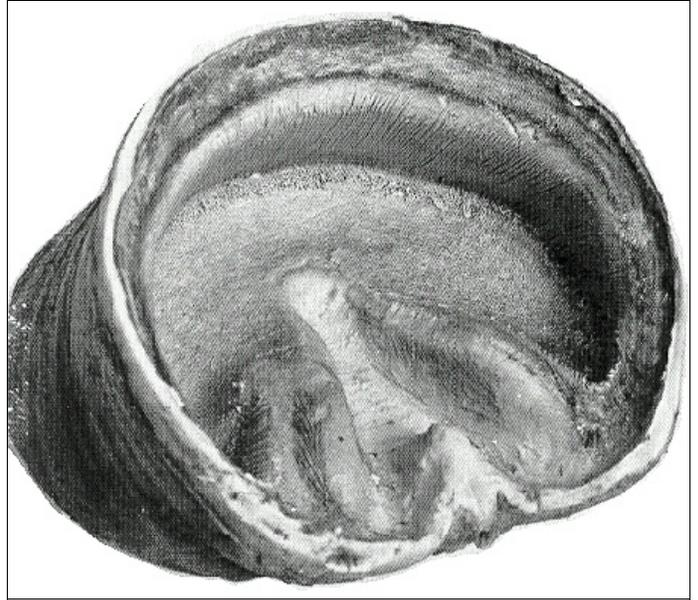

Figure 1. Inside the capsule showing the epidermal lamina that ring the entire inside of the hoof wall. (photo credit: Emery, Miller and Van Hoosen)
The LAM has been studied extensively for nearly two decades by Dr. Christopher Pollit of the Australian Laminitis Research Unit (Queensland University). It refers to the manner by which the hoof wall is bound to the lowermost of the three bones in the horse's foot, that is the *coffin bone* (aka the Distal Phalanx and P3). The inner hoof wall (**Figure 1**) is combed with a vertically oriented network of some 600-plus parallel, epidermal leaf-like structures, called lamina (Latin - "a thin piece" like a blade of grass). These epidermal leaves of the inner hoof wall are called the *primary epidermal lamina*, or PEL. The PEL interdigitate ("connect") with another set of parallel *dermal leaves* (DL) that are attached to the coffin bone (**Figure 2**).